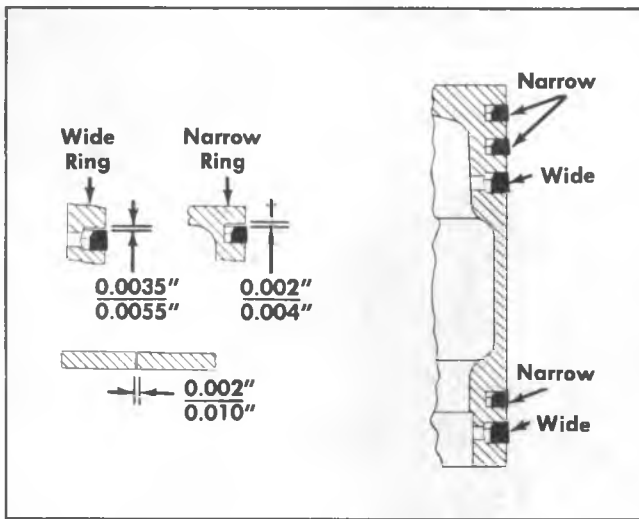

Fig. 13G—Piston Ring Arrangement and Clearances 12 cu. ft. Compressor
2. Clearance between rings and sides of ring grooves in 12 cubic foot compressor should be from 0.0035" to 0.0055" for wide rings and from 0.002" to 0.004" for narrow rings as shown in figure 13G. Ring gap should be from 0.002" to 0.010".